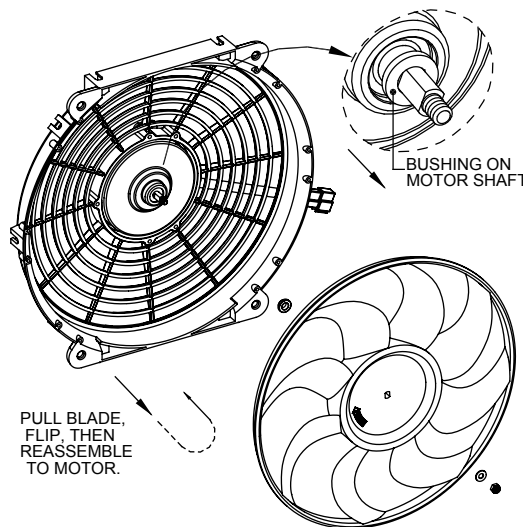

FIGURE 4
2. Carefully pull the blade off the motor shaft. Caution - edges of blade are sharp. Do not try to drive the motor out by impact! This will destroy the motor and void the warranty. Flip the blade, then place back on the unit by lining up the hub center with the motor shaft. Blade will rest on spacers as shown in **FIGURE 4**. Be very carefull not to loose any of the spacers.